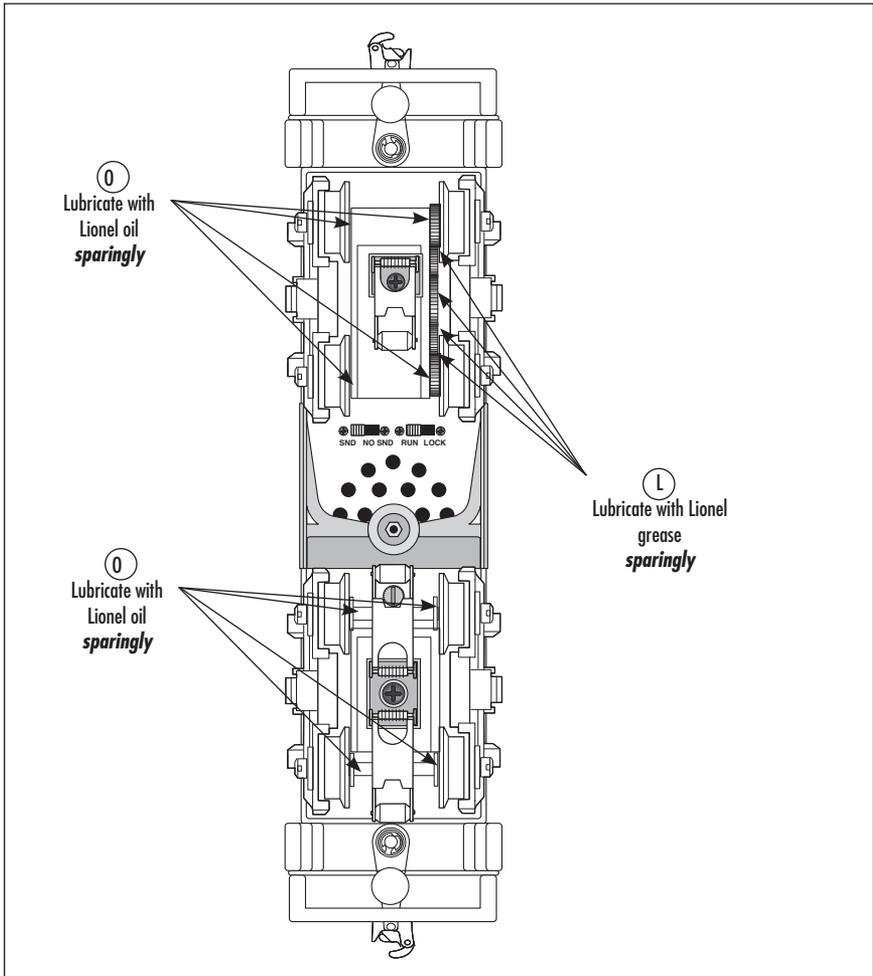
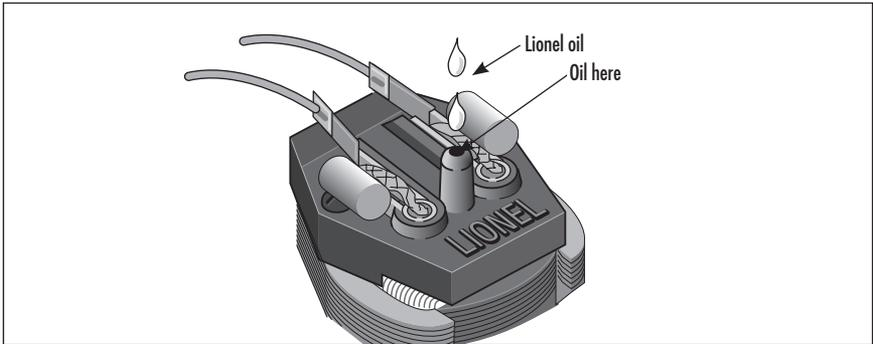

Figure 4. Underside details and lubrication points
Figure 5. Pullmor motor lubrication
The life and performance of the locomotive depends to a considerable extent upon proper care and lubrication of the motor and other moving parts. Since your locomotive might have been stored on the dealer's shelves for some time, be sure to lubricate it according to the lubrication chart in Figure 4 on page 8 before running it for the first time. Put a small dab of Lionel Lubricant at all points marked "L". Using the point of a pin or a thin wire, put a drop of Lionel Oil at points marked "O". Lubricate carefully but never to excess. A small amount of oil or lubricant, properly applied, goes a long way. Be careful not to get any oil or lubricant on the running surfaces of the wheels or on the rails, or your locomotive will lose traction and do not lubricate locomotive rollers.
The motor of this locomotive requires occasional lubrication with a few drops of light machine oil. See Figure 5 on page 9. To get at the motor the locomotive body must first be removed. See Figure 4 on page 8.
When you find that the lubrication points illustrated in Figure 4 appear dry, lubricate your locomotive after you have removed any accumulated dirt and dust. There are two basic rules to keep in mind when you are lubricating your locomotive: use only a small amount of lubrication and avoid getting grease or oil on your locomotive's wheels, roller pick-ups, or the track.
2. Apply a small amount of Lionel oil (two drops) in the armature shaft hole. Refer to Figure 5 below.